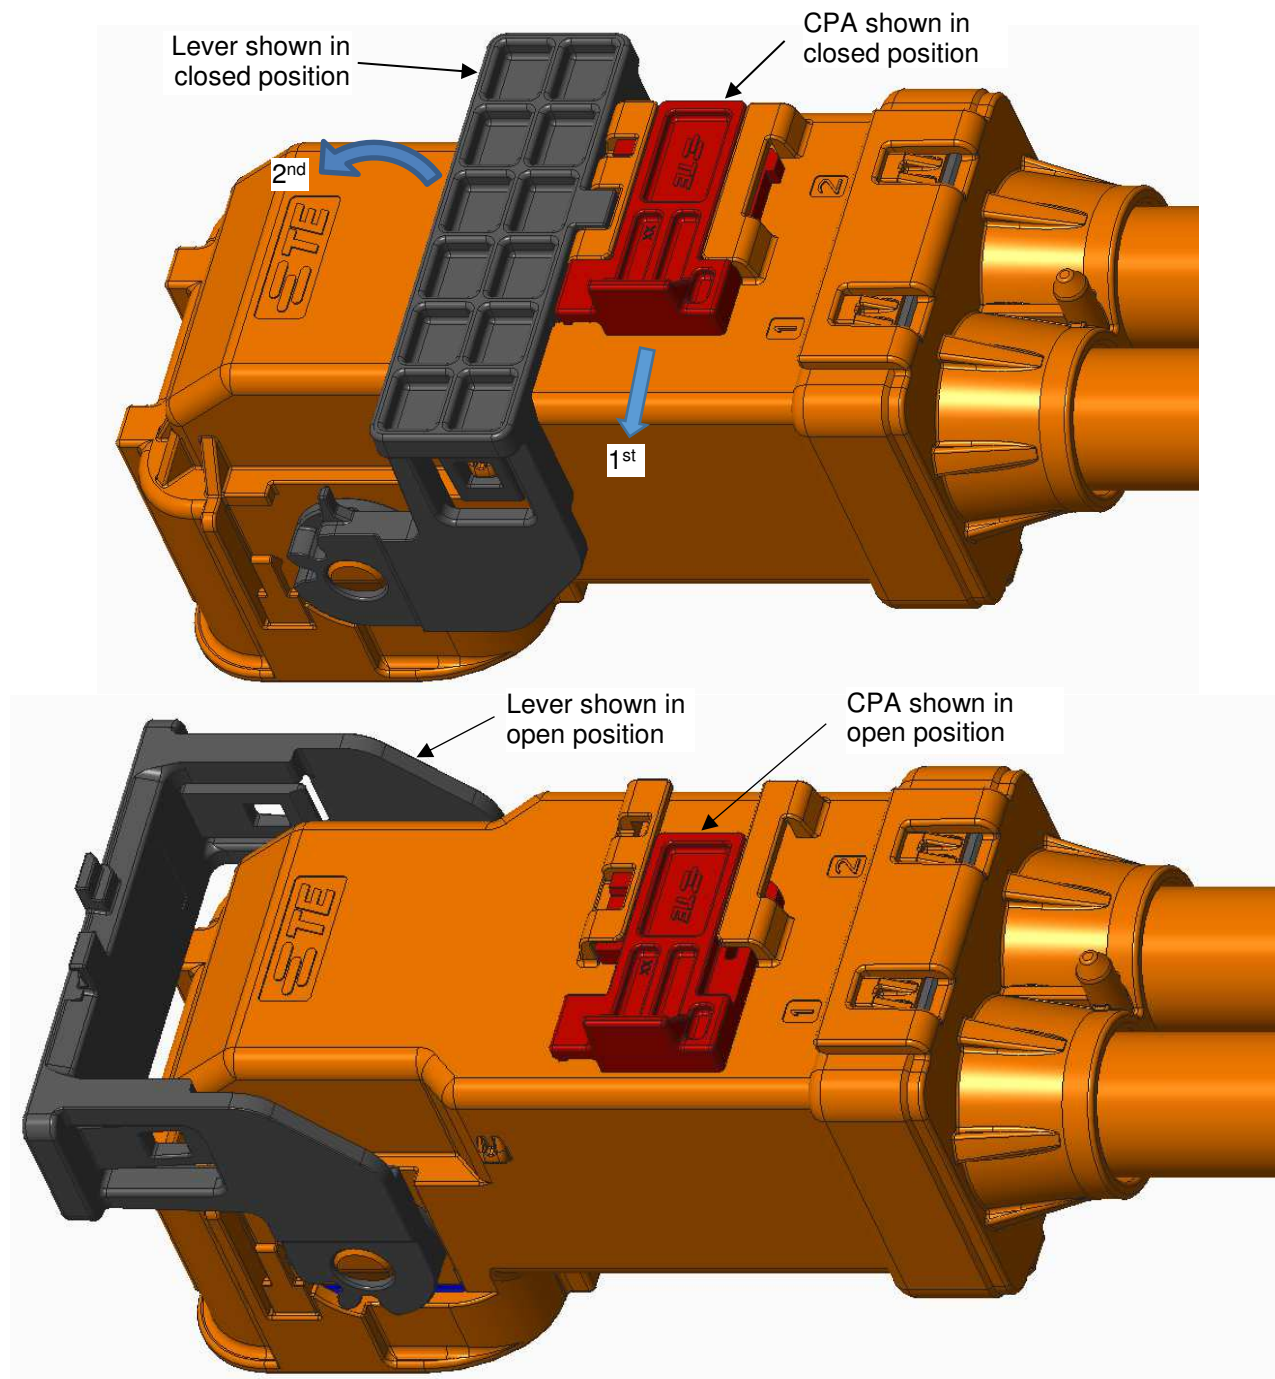

Figure 15: Assembly Lever and CPA Closed
1. If the assembly is shipped with the Lever and/or red Connector Position Assurance (CPA) in the closed position, first if necessary, actuate the CPA to the open position, then open the lever to the open position as shown in Figure 15.